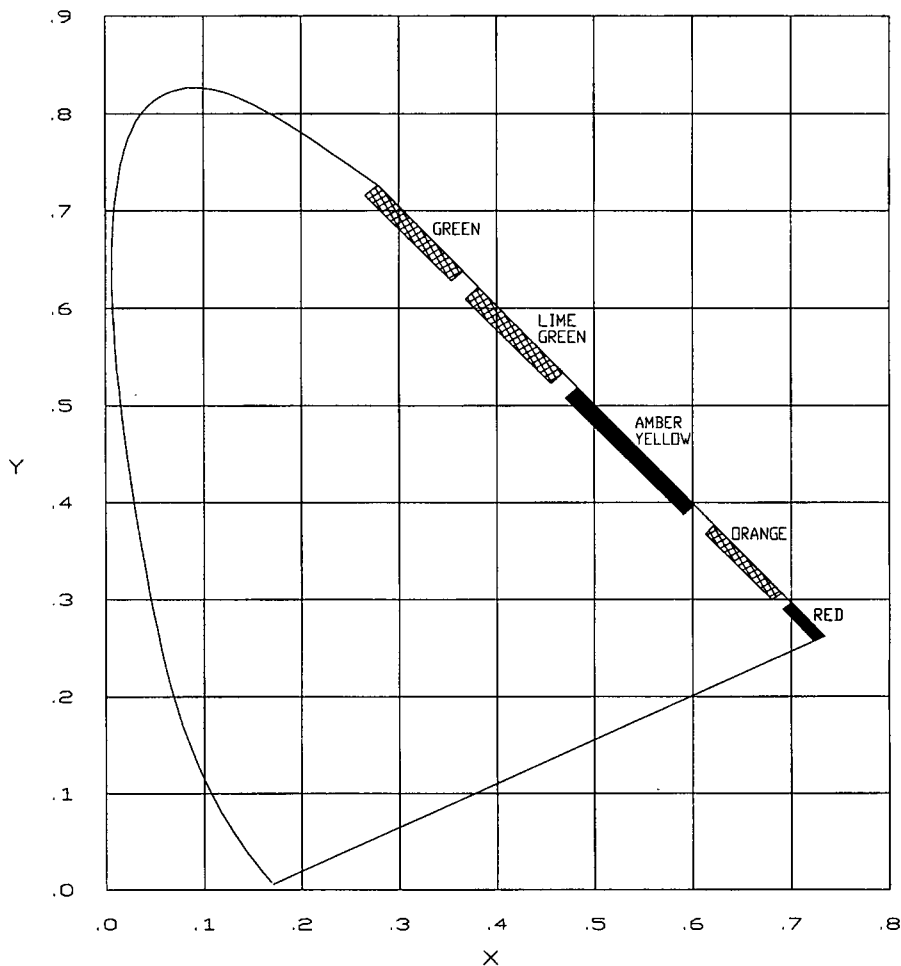

Figure 44 Multi-Chip LED Colors-CIE 1931 Chromaticity Diagram
3. Color, Series 90 Code, see Figures 44, 46, and Sec 5 Table 8.
Multi-chip LED colors are shown in the CIE 1931 Chromaticity Diagram of Figure 44.